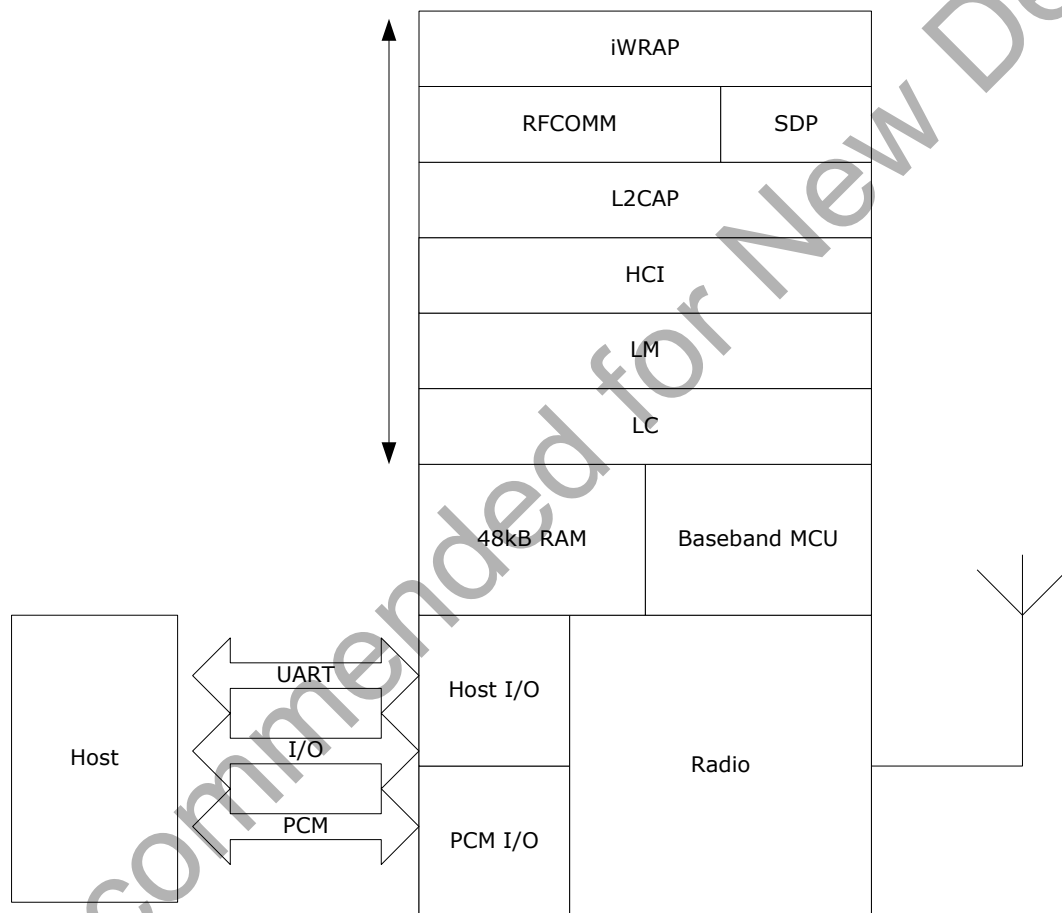

Figure 22: WRAP THOR VM Stack
In Figure 22 above, the iWRAP software solution is described. In this version of the stack firmware shown no host processor is required to run the *Bluetooth* protocol stack. All software layers, including application software, run on the internal RISC processor in a protected user software execution environment known as a Virtual Machine (VM).
The host processor interfaces to iWRAP software via one or more of the physical interfaces, which are also shown in the Figure 22. The most common interfacing is done via UART interface using the ASCII commands supported by the iWRAP software. With these ASCII commands the user can access *Bluetooth* functionality without paying any attention to the complexity, which lies in the *Bluetooth* protocol stack.